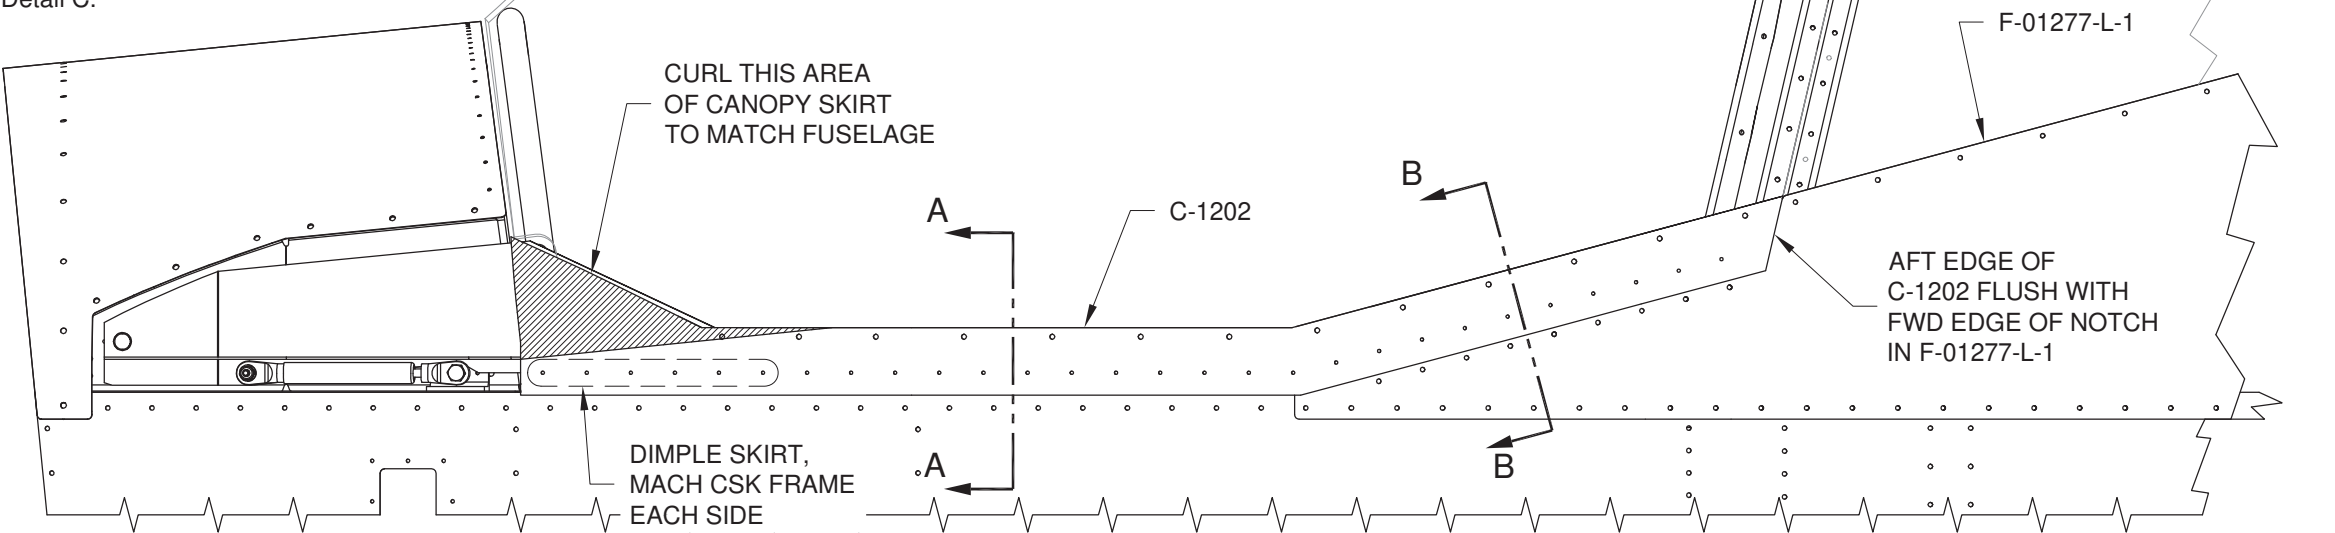

FIGURE 1: ATTACH CANOPY SKIRTS
Step 2: Place the C-1201 Canopy back on the WD-1219 Canopy Frame and use strips of duct tape to help pull the sides of the canopy down and hold it in place. Verify that the canopy is properly positioned fore/aft and side-to-side as shown in Page 39iS/U-07, Figure 1, Section A-A, Section B-B, and Detail C.
Step 4: Position the C-1202 Canopy Skirt to the outside surface of the canopy frame sides as shown in Figure 1, Section A-A and Section B-B. With the canopy skirt held or taped in place, match-drill #30 through the canopy skirt and into the canopy frame and cleco. Remove chips as required after drilling each hole, then cleco.